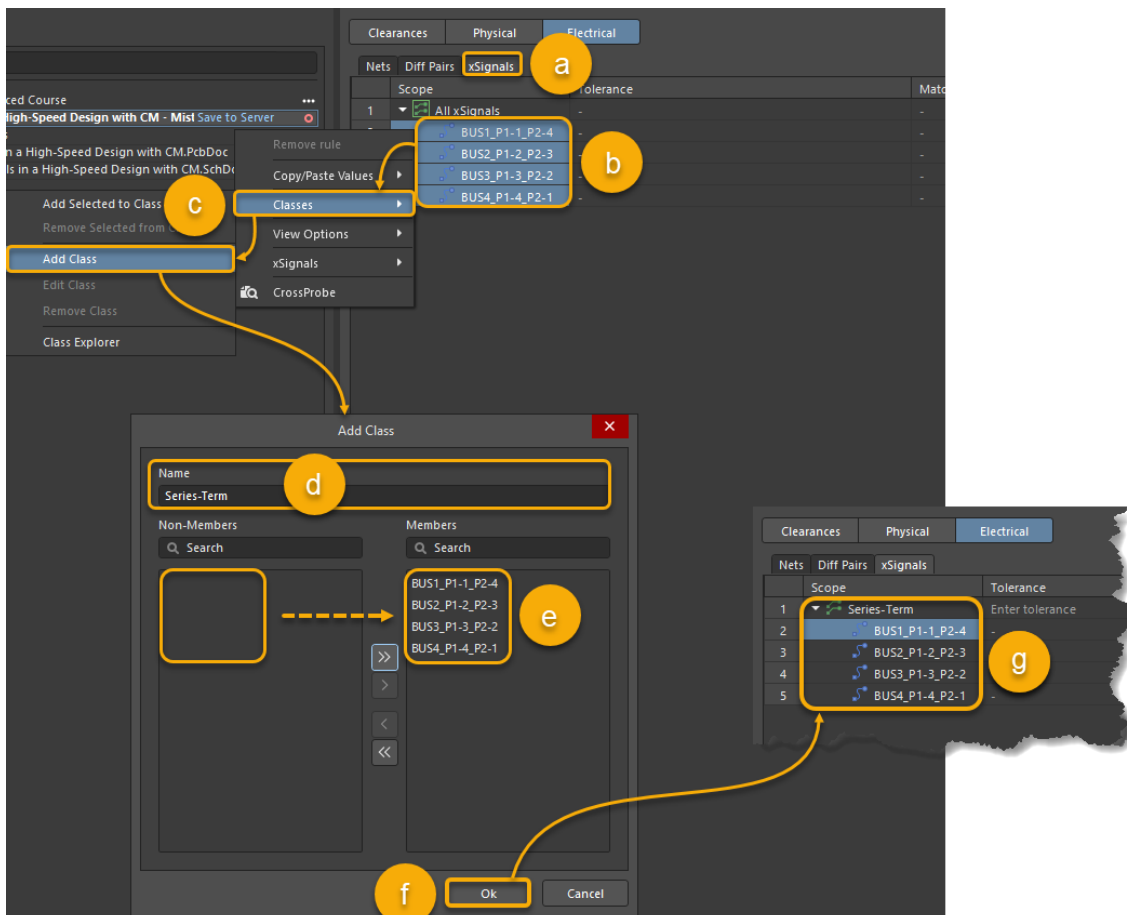

Figure 11. Creating an xSignal class
25. Let's create the xSignal Class for the four created xSignals, Figure 11.